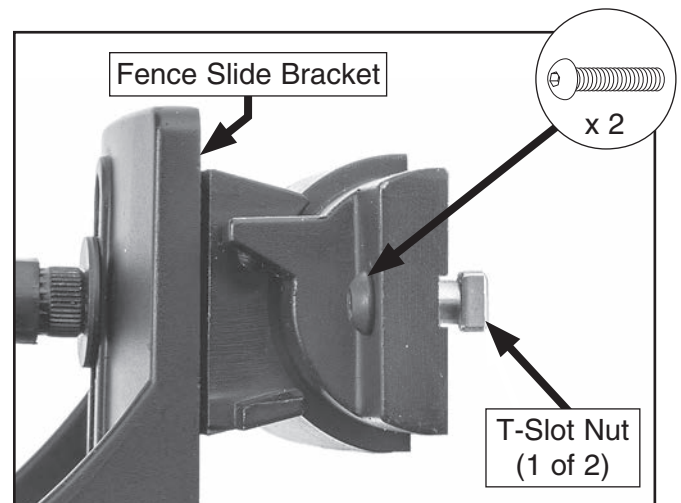

Figure 10. Button head cap screws and T-slot nuts installed.
2. Install (2) M6-1 x 16 button head cap screws and (2) M6-1 T-slot nuts on fence slide bracket (see **Figure 10**). **DO NOT** tighten at this time.